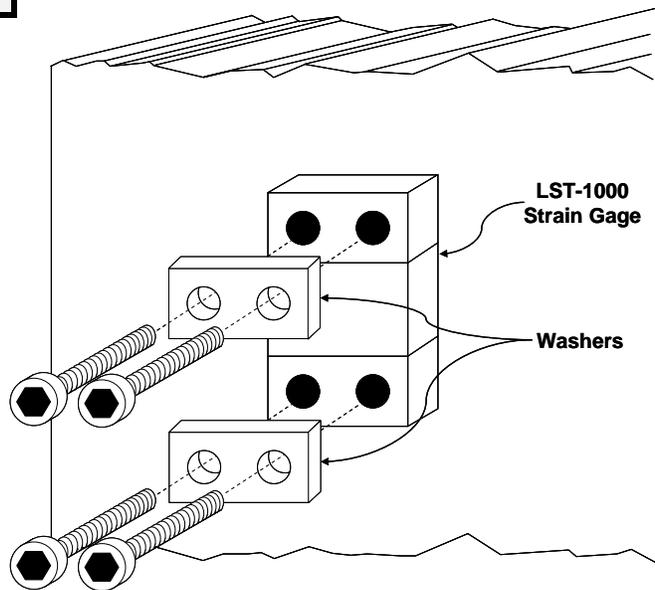

Figure 71: LST-1000 Strain Gage Mounting
- 7) Mount the strain gage as shown in Figure 71. Make certain that the washers provided with the strain gage kit are placed **over** the strain gages, **not under them**. Torque the 1/4 x 28 bolts to 150 in-lbs. A calibrated torque wrench is the preferred tool to torque the bolts.